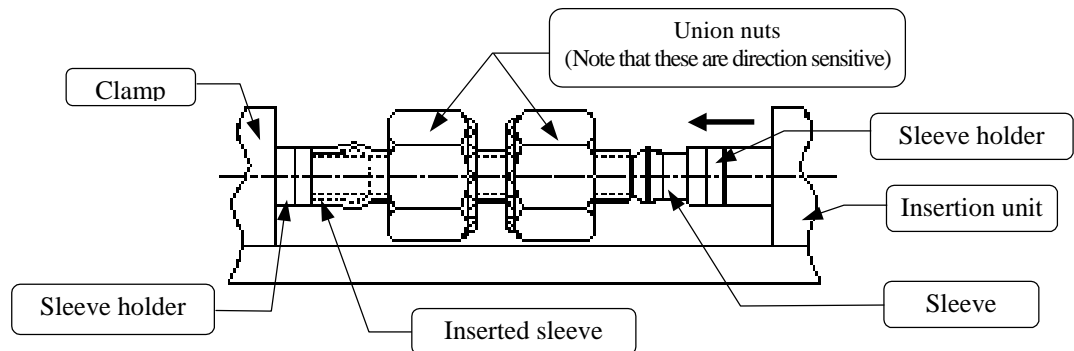

Figure 19. Parts arrangement
- Loosen the knob located below the tube holder, position the tube holder so as to allow the arrangement shown in Figure 19, and then retighten the knob to secure the tube holder.